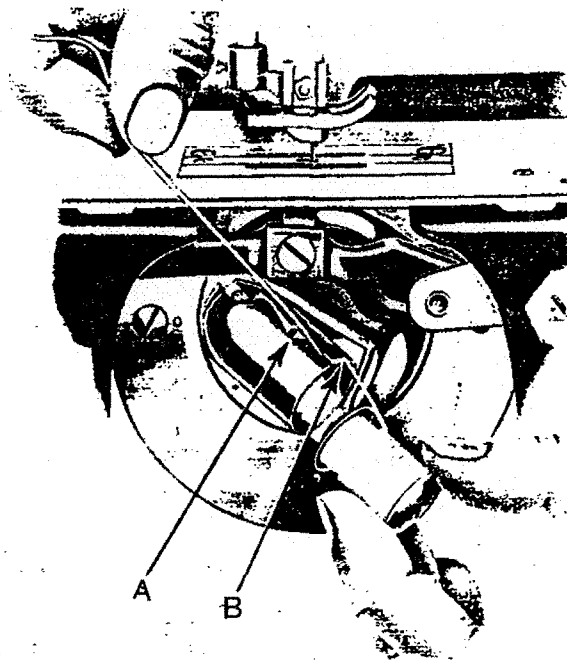
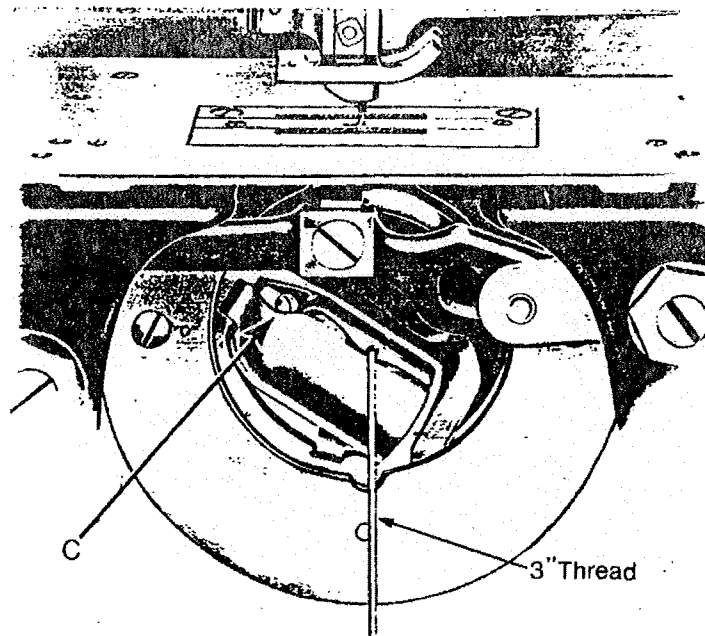
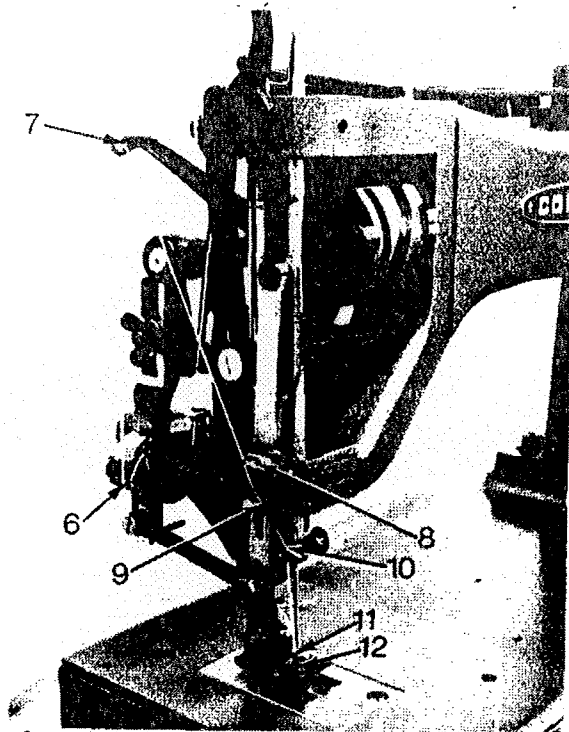
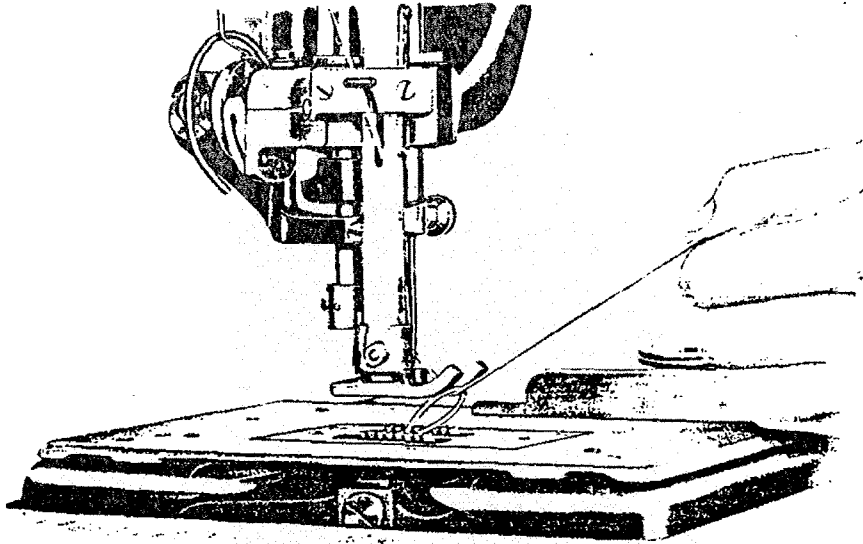

Fig. 4 Bobbin Replacement and Threading the Shuttle
Fig. 5 Bobbin replaced and Shuttle threaded
Fig. 7 Threading the Needle
Fig. 8 Drawing up the Bobbin Thread
Hold the bobbin between the thumb and index finger of the left hand, at the same time the thread is drawing off from the underside toward the right as shown in Fig. 4. Place the bobbin in the cylinder as far as it will go, draw the thread in the slot B, Fig. 4 in the cylinder and under the tension spring, then into the delivery eye A, Fig. 4, then push the cylinder back until it is locked by the spring latch, and allow about 3 inches of thread to hang free from the shuttle Fig. 5 so that it can be drawn up through the throat plate, as noted in Fig. 8.
Fig. 7 into the slot 9 in the vibrating presser bar, into thread guide 10 on the needle clamp, and from left to right through the eye of the needle 11 then pass the thread down through the hole in the lifting presser foot 12. Draw about four inches of thread through the hole of the lifting presser foot with which to pull up the bobbin thread as shown in Fig. 8.
With the left hand hold the end of the needle thread, leaving it slack from the hand to the needle. Turn the balance wheel until the needle moves down and up again to its highest position, thus catching the bobbin thread; draw up the needle thread and the bobbin thread will come up with it through the hole in the throat plate (see Fig. 8) Lay both threads back under the presser feet.
B. The tension on the bobbin thread is regulated by the screw C Fig. 5 which holds the tension spring to the cylinder. To increase the tension, turn the screw to the right. To decrease the tension, turn the screw to the left.